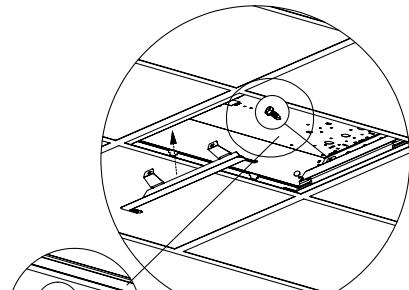

Figure 2
**2.** Install LED Troffer end brackets to each end of the existing fixture housing by gently lifting the housing and placing LED troffer end brackets between the fixture housing and T-grid. (Fig.2)